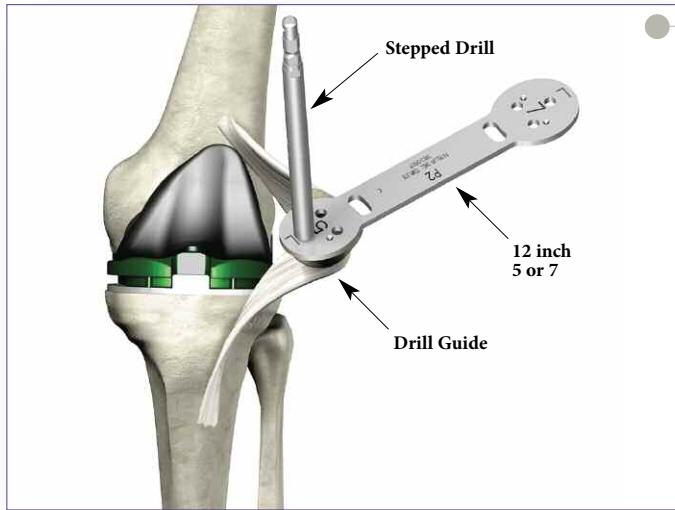

Figure 81
- Center the chosen patellar drill guide over the patella with the handle perpendicular to the trochlear groove. Drill three fixation holes with the appropriate stepped drill (Figure 81).